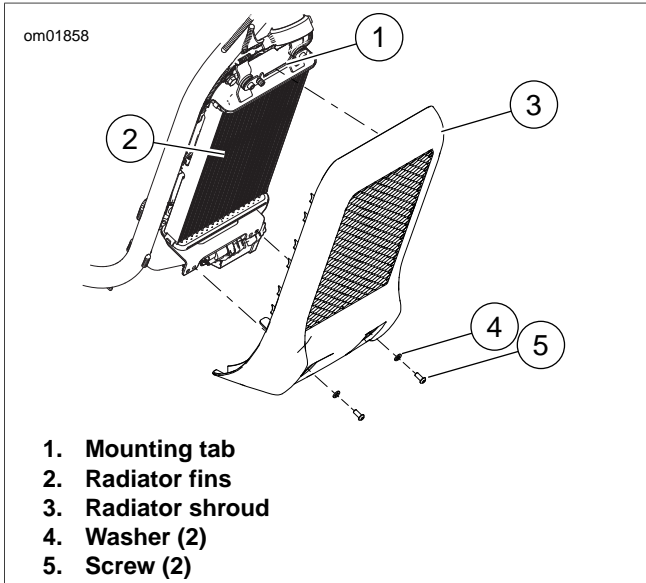

Figure 31. Radiator Shroud
1. See Figure 31. Remove screws (5) and washers (4).
2. Remove radiator shroud (3) from mounting tab (1).